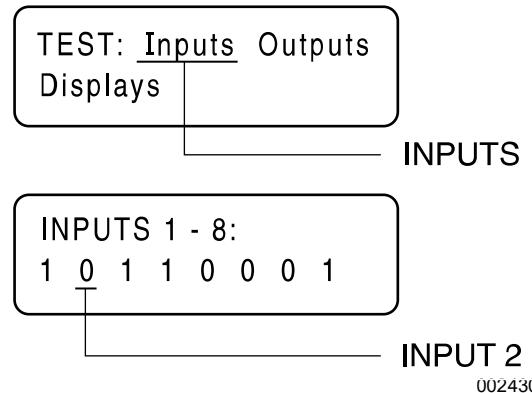

Figure 3-76. The Input Screens
7. See Figure 3-76. Navigate to the Digital inputs display screen of the controller being worked on.